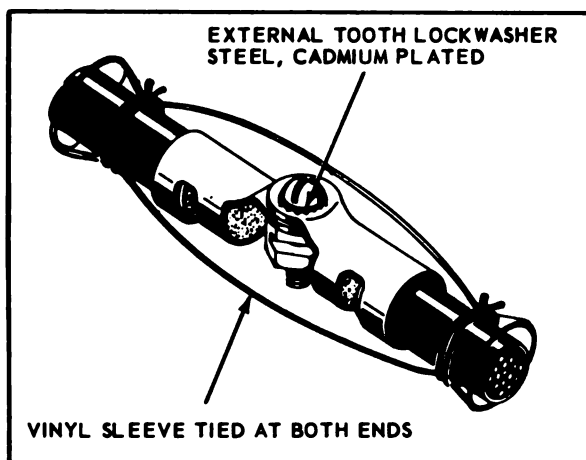

Figure 7-16. Connecting Thermocouple Splices
- Do not splice thermocouple leads except where specifically indicated and then only with approved splices such as shown in figure 7-16.